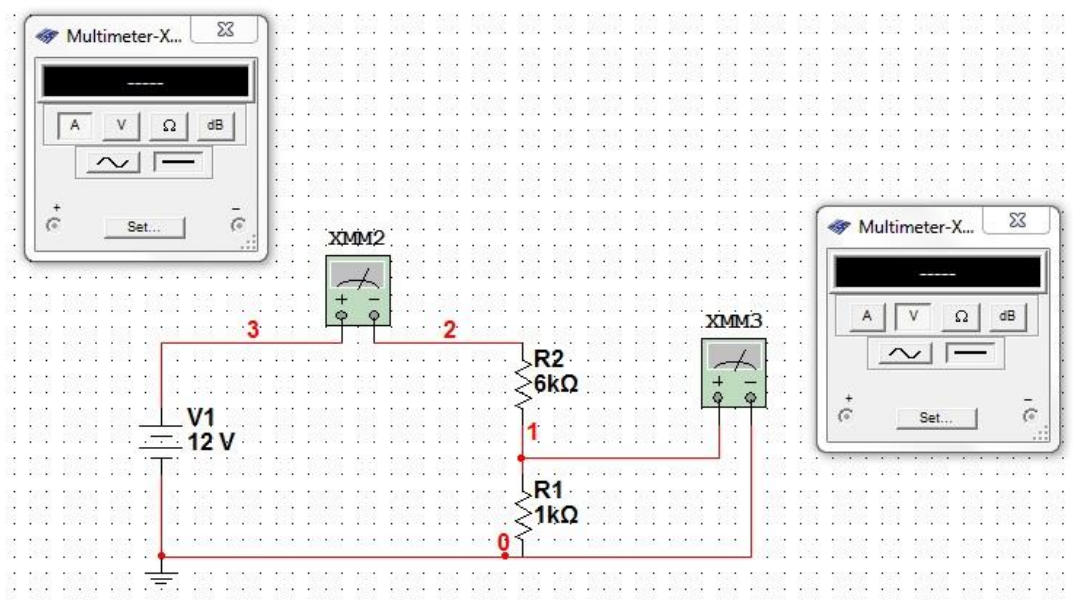

Figure 4.16: Voltmeter Setup
- d. **Multimeter as a Voltmeter:** Place a Multimeter in the schematic window and connect it in parallel to the component to be measured and complete the as shown in figure 4.16. Click on the Ammeter and select the ‘V’ button and the DC voltage button.